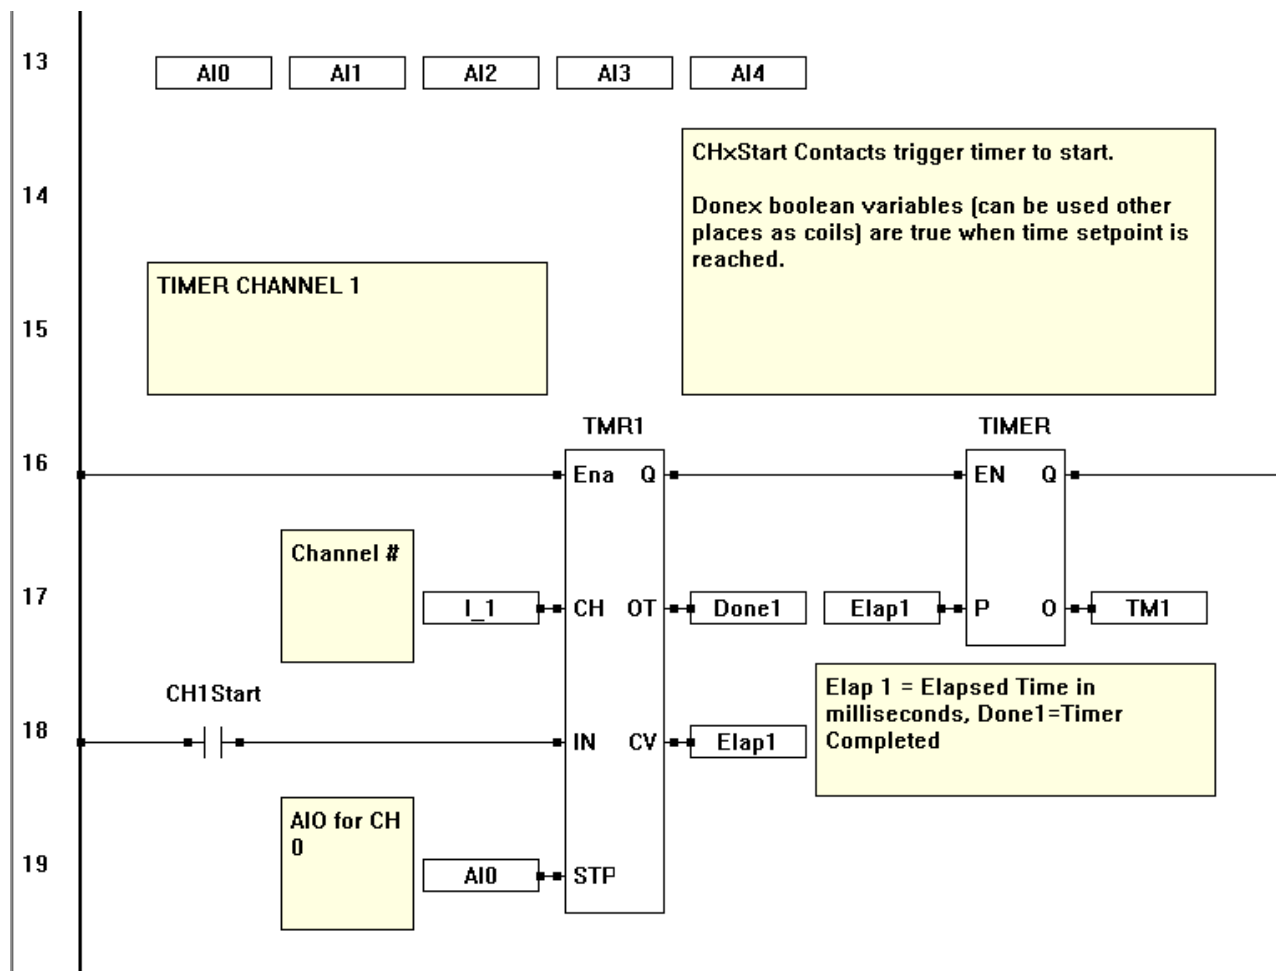

Figure 3-1 - Custom ST Function Block
For each placed instance of the custom structured text function block (named TMR), there are a few inputs and outputs that must be connected. See Figure 3-1.
As shown in Figure 3-1, the CH1Start boolean variable (contact) starts the timer. When the timer setpoint is reached, the Done1 boolean variable will be true (1). This variable may be placed elsewhere in the program as a boolean variable or as a contact. The AI0 is the analog input for Channel 1. The Elap1 variable is the current timer value in milliseconds and the TM1 variable is shown only for example with the Elap1 converted to a timer (seconds, minutes, etc). The CH input is connected to I_1 which is an integer with a default value of 1 always.